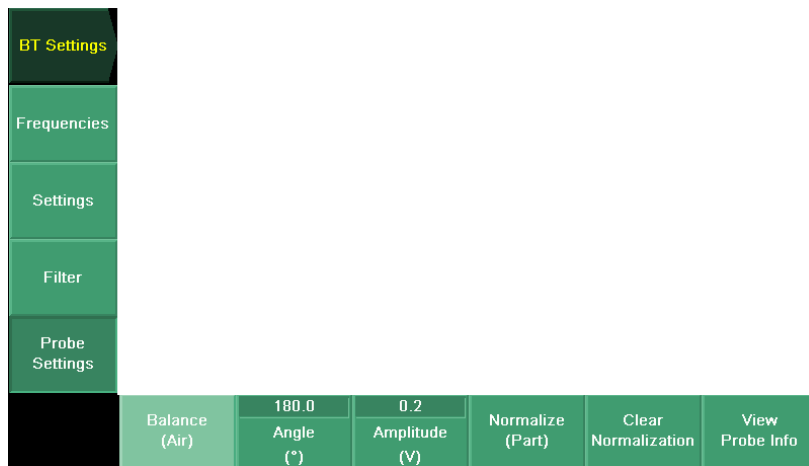

Figure 4-1 BT Settings menu
1. Select **BT Settings**, and then select **Probe Settings** (see Figure 4-1 on page 41).